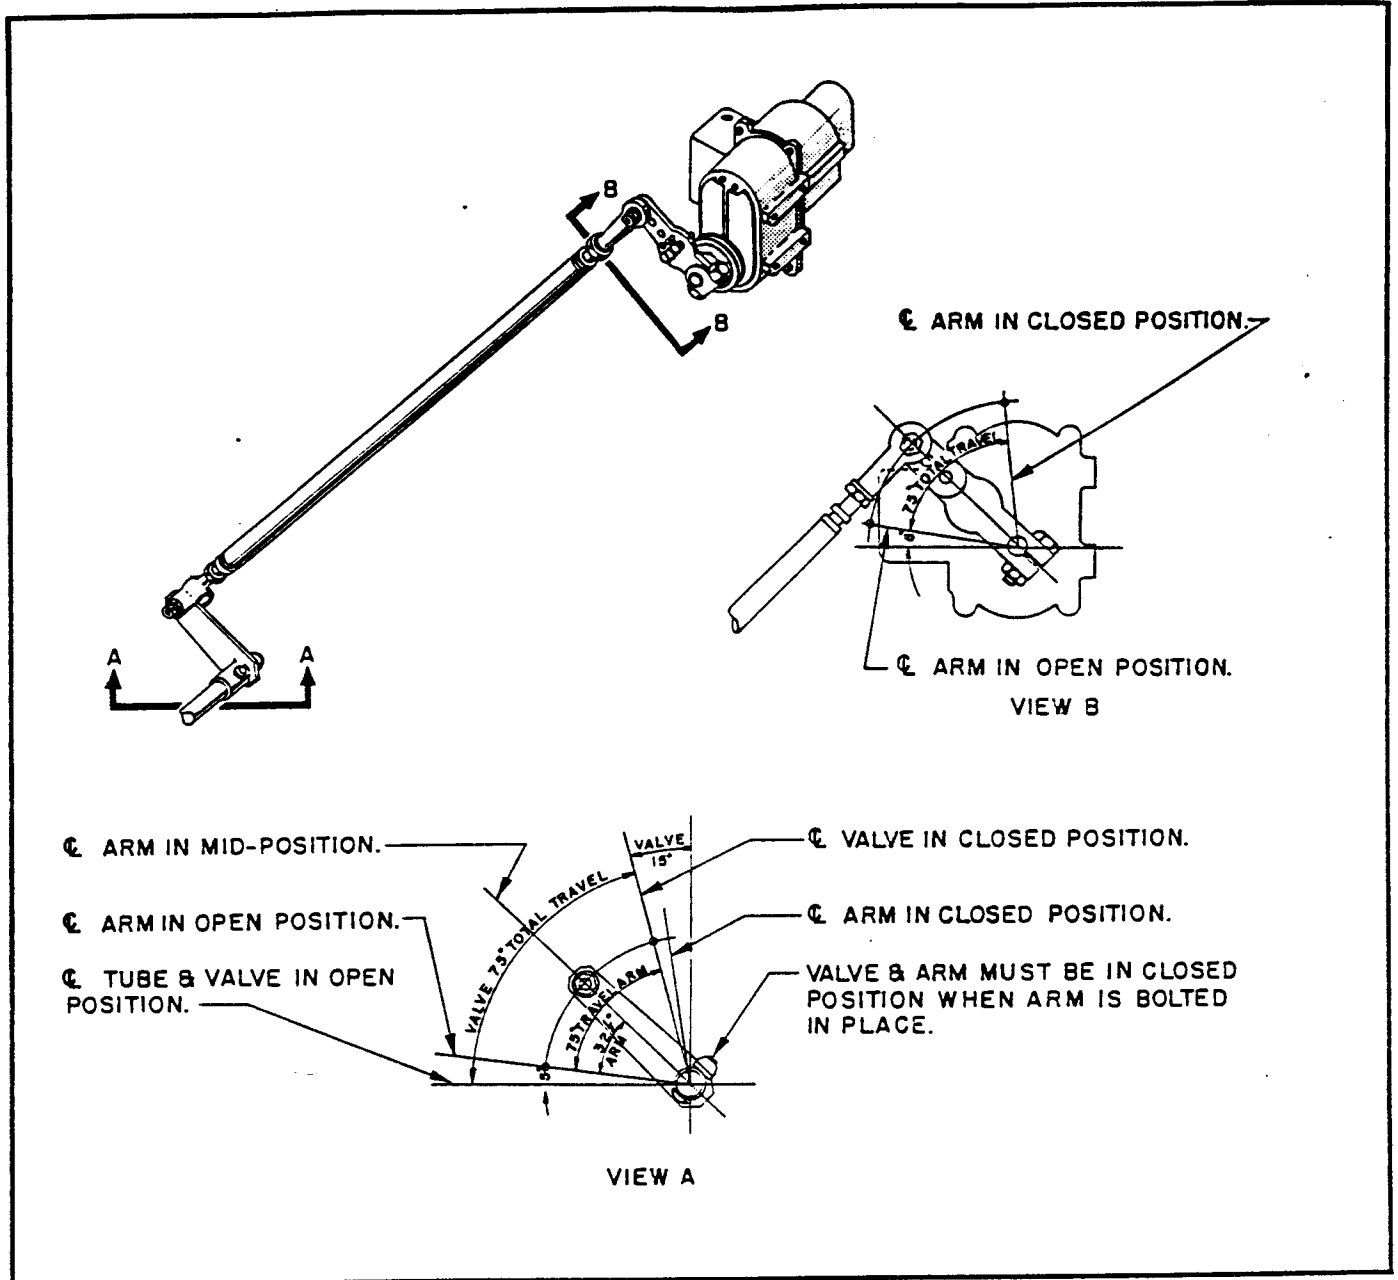

Figure 20. Turbo Selector Valve Mechanism
(e) **CRUISE VALVE.** (See figure 20.)- Refer to paragraph 14 a (5).